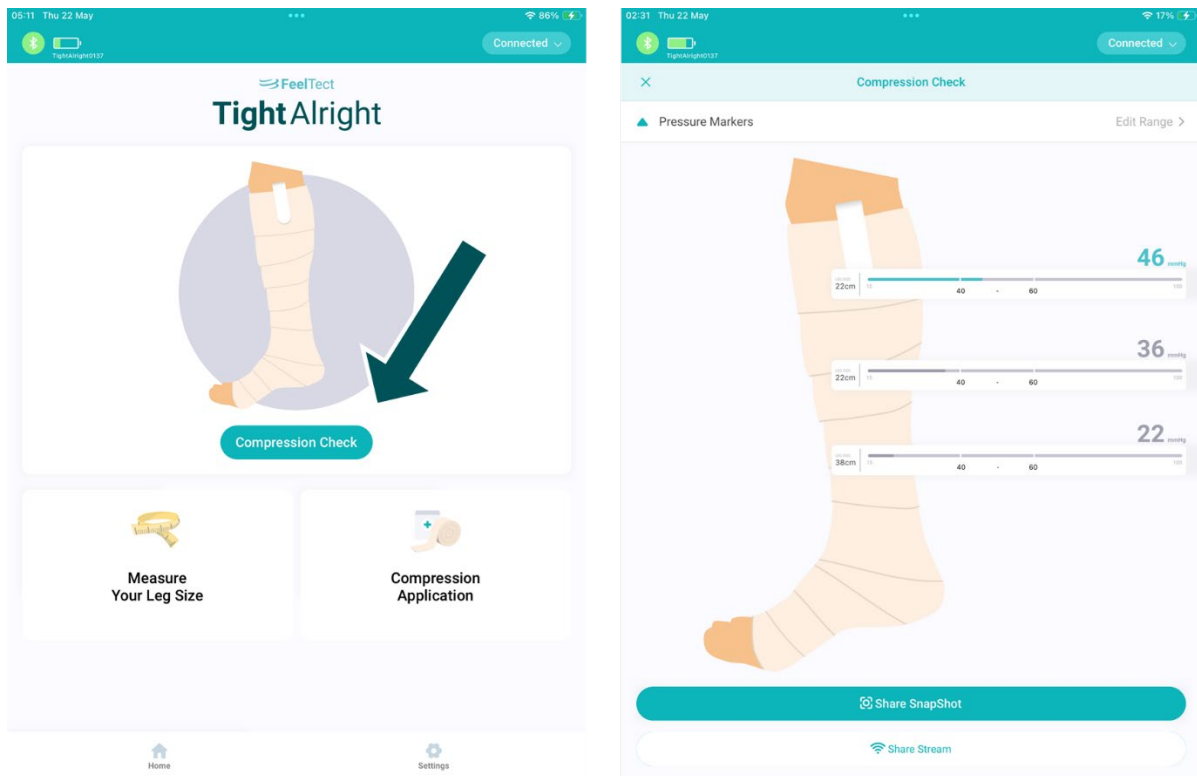

Figure 29. Select “Compression Check” on the Mobile App Home screen to view pressures once the compression product is applied.
- In the Mobile App **Home** screen, click **Compression Check** to view live readings of the applied compression product (Figure 29).
- Similar to the transmission of data after compression applications, if your smart device is connected to the internet, you can press the **Share Snapshot** button at the bottom of the **Compression Check** screen to transmit pressure readings to the FeelTect secure cloud (Figure 29).